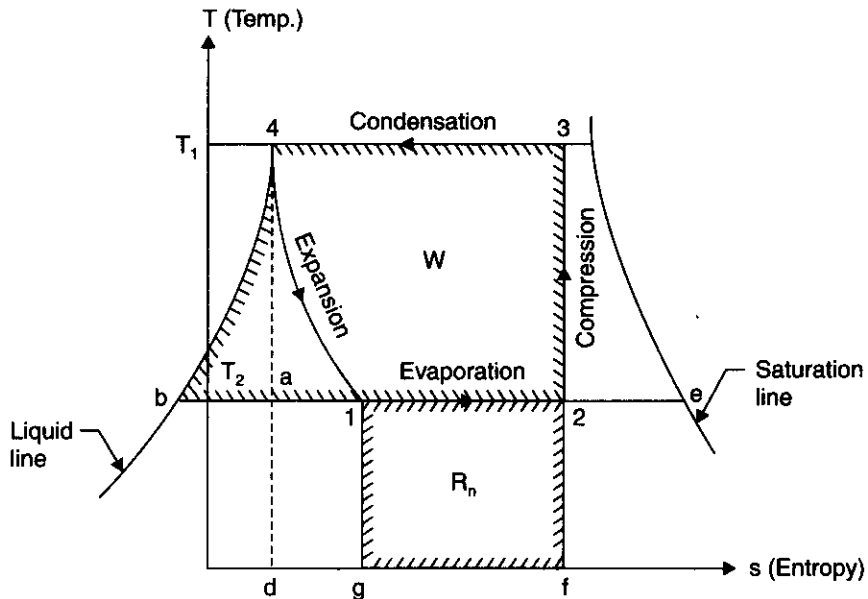

Fig. 14.12.  $T-s$  diagram.
**3. When the vapour is wet after compression.** Refer Fig. 14.12.